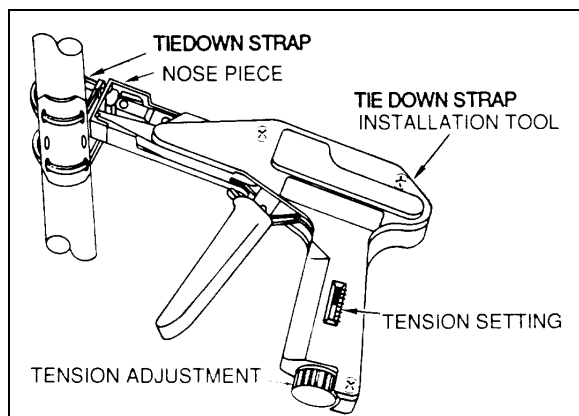

FIGURE 11-30. Tie-down strap installation tool.
(4) Select the applicable installation tool and move the tension setting to the correct position. (See figure 11-30.)
(5) Slide tip of strap into opening in the installation tool nose piece. (See figure 11-30.)